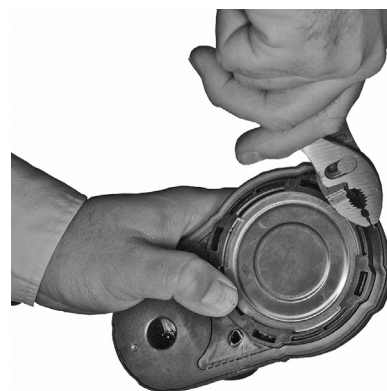

Figure 39: Pull tab to remove the breakaway plate
- Grasp the pull tab located to the right of the encoder seal screw with pliers (Figure 39). Then pull and remove the bottom breakaway plate from the housing to expose the wire. The plate is scored to facilitate removal.